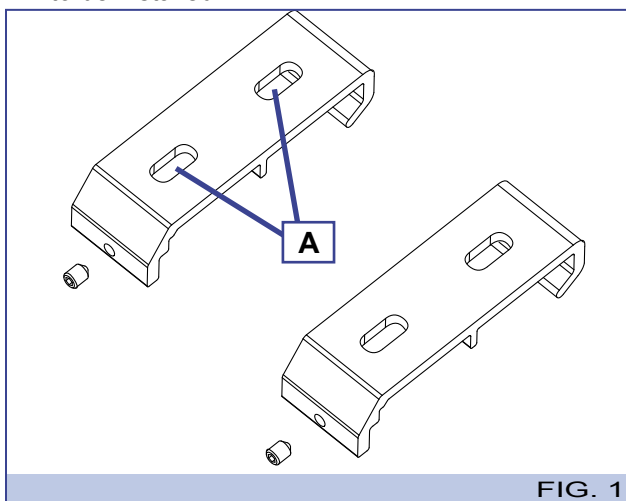

FIG. 1
The support brackets are the same for both wall and ceiling installation (see kit in Fig. 1). These must be fastened using the two holes (A).